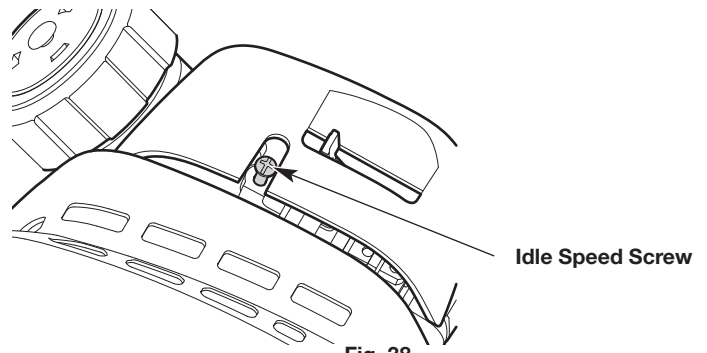

Fig. 38
- If the engine stops, increase the idle speed. Use a small Phillips screwdriver to turn the idle speed screw clockwise, 1/8 of a turn at a time, until the engine idles smoothly (Fig. 38).
- If the cutting head / blade spins when the engine idles, reduce the idle speed. Turn the idle speed screw counterclockwise, 1/8 of a turn at a time, until the cutting head / blade stops moving (Fig. 38).